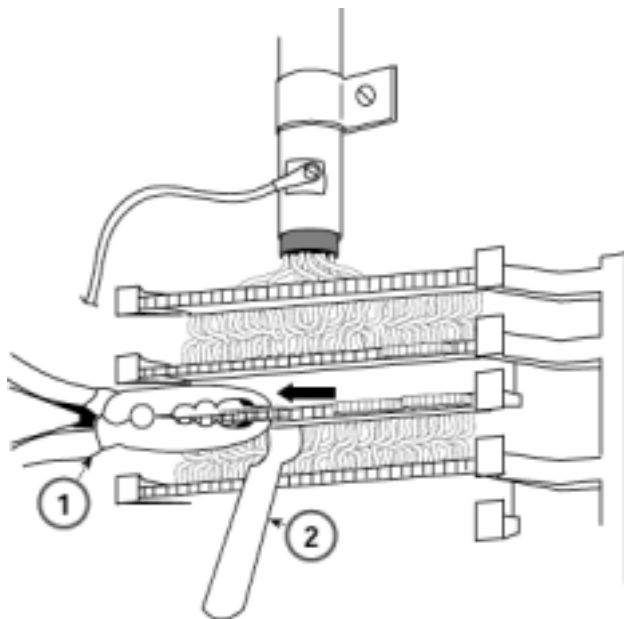

Figure 3-15. Removing the Connecting Block
- Place a 788K1 retainer tool against the conductor pairs beneath the connecting block to be removed. See Figure 3-15.
- Use pliers to grip the connecting block in the center. See Figure 3-15.